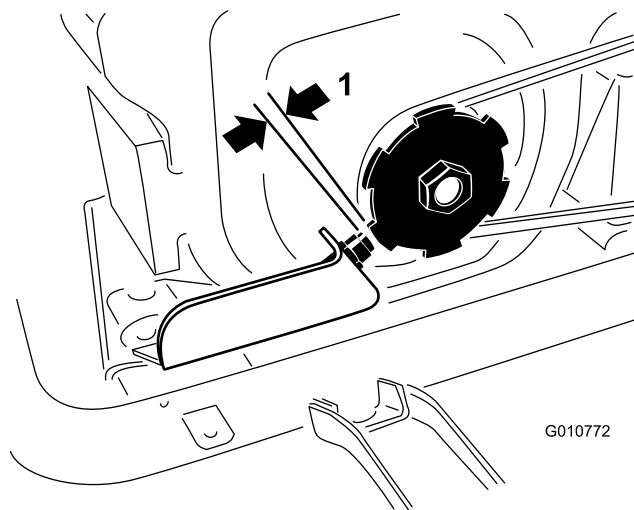

Figure 6
16. Adjust the sensor in or out until the clearance between the end of it and the magnetic pickup wheel is .060–.120 inch (Figure 6). Tighten the jam nuts after the adjustment is attained.